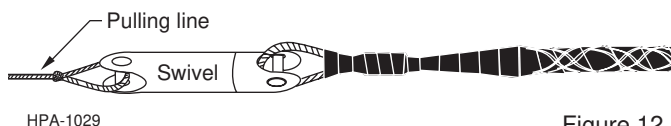

Figure 12
4.11 Connect the pulling eye to the appropriate ball bearing swivel and pulling tape (Figure 12). The grip installation is now ready for the cable pull.